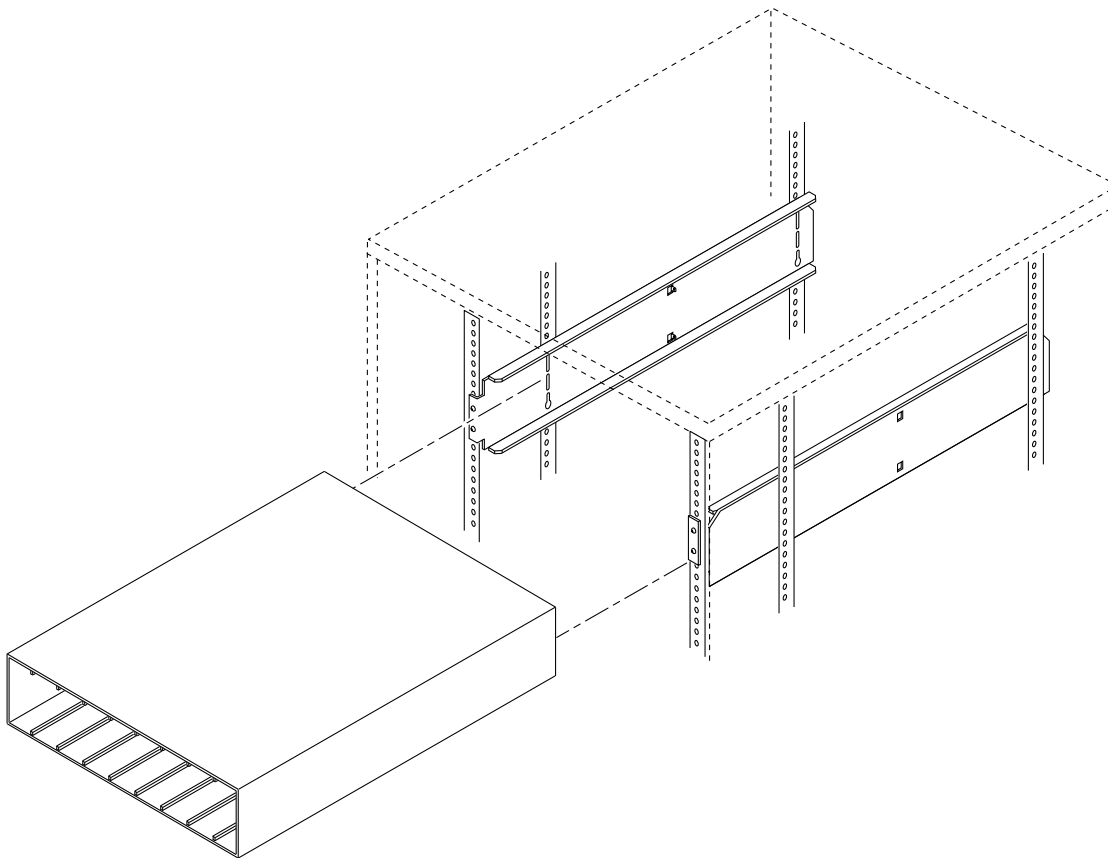

FIGURE 9-3 Removing the Chassis
- b. Slide the chassis out of the cabinet (FIGURE 9-3).**